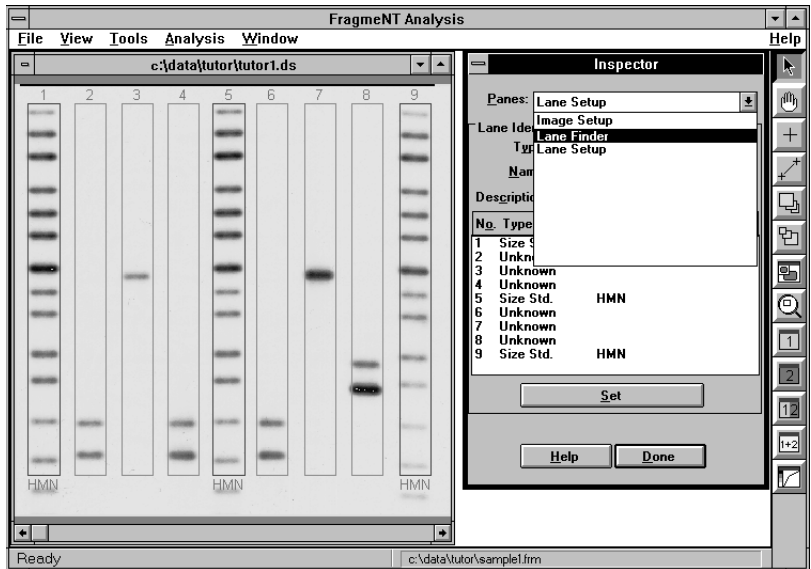

Figure 3-9. Identifying lanes.
4. Click **Done**. The Lane Setup inspector appears (figure 3-9).
When the Lane Setup inspector appears (figure 3-9), the lane identification information you entered in the Lane Setup window of the Experiment Form is shown in this inspector.
2. Click the **Panels** box. A list of inspectors appears (figure 3-9).